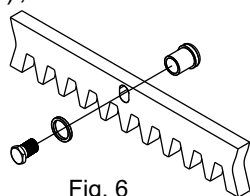

Fig. 6
5.2. Fix to each gear rack element the support pawls using the appropriate lock screws, taking care to place them in the upper part of the hole (Fig. 6);